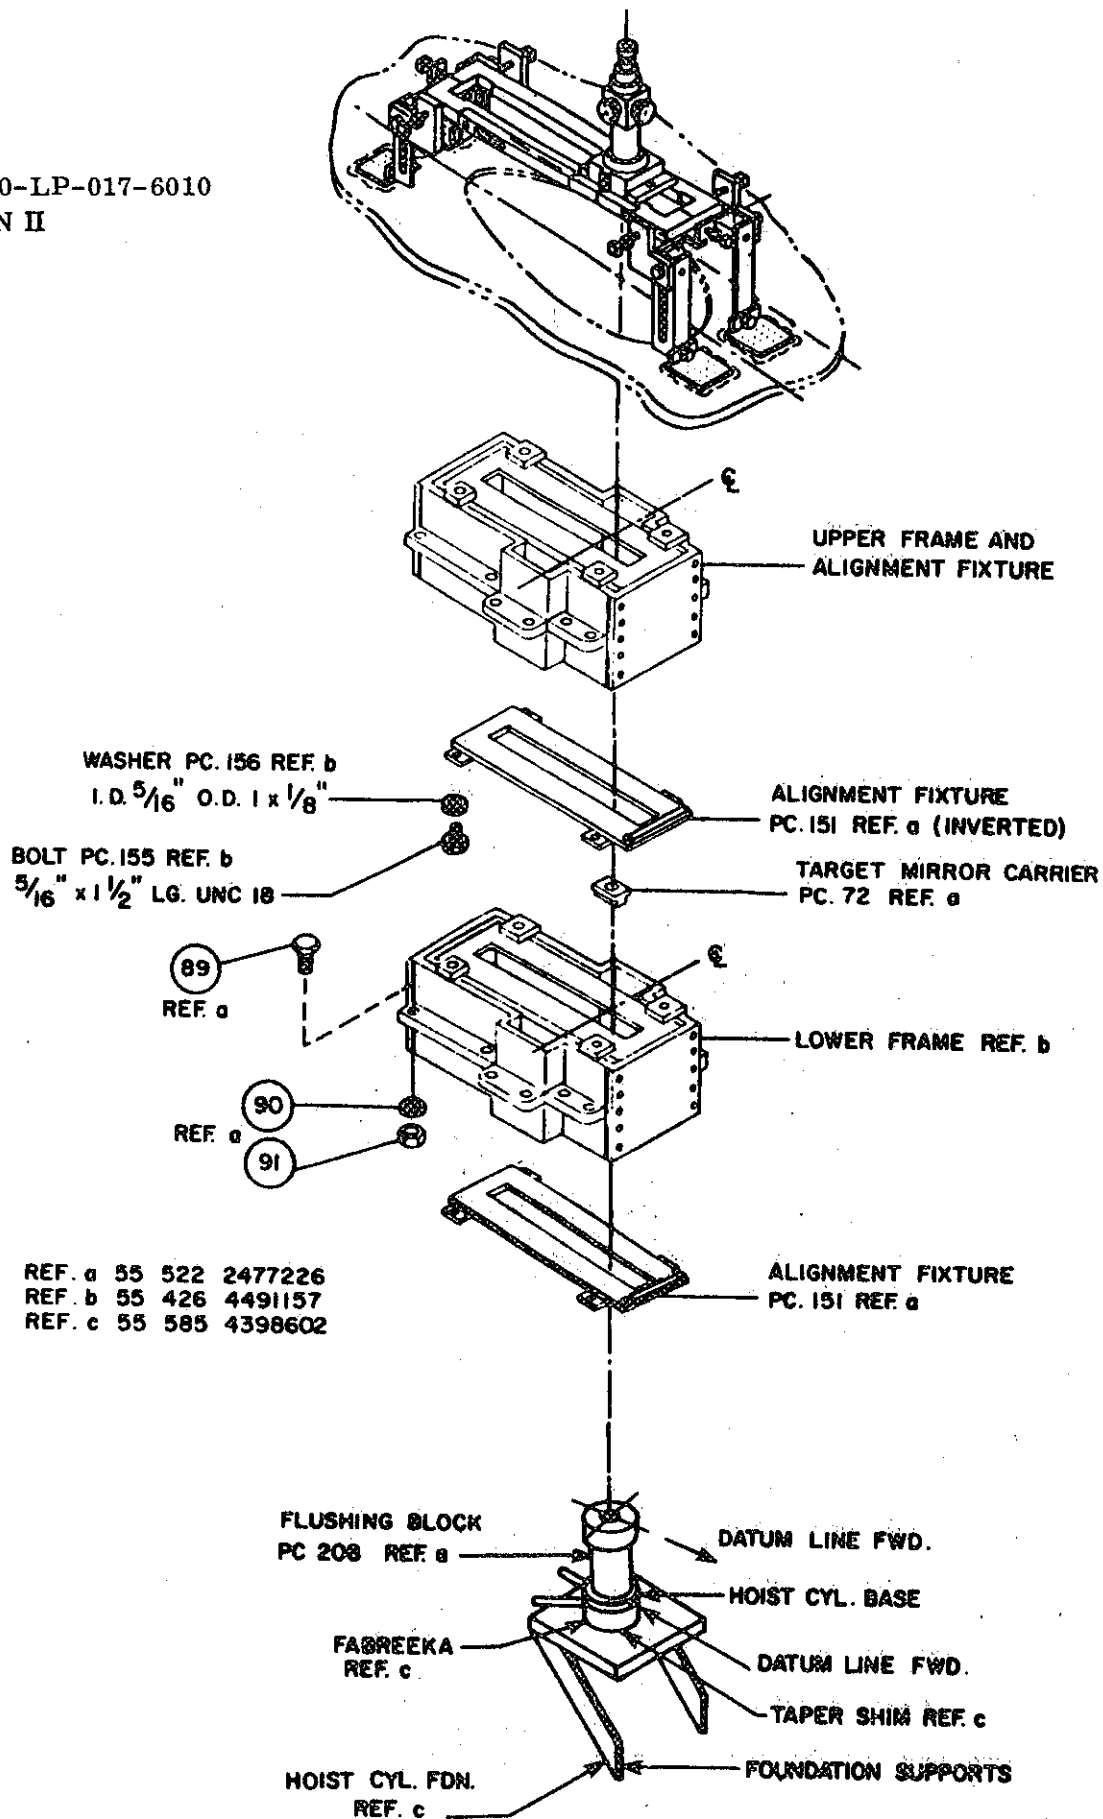

Figure 2-19. Alignment Set-Up
- STEP 1** (See Figure 2-19.) Position the bearing frame on the foundation plate and then align it with the adjusting (jacking) screws until all of the following exist:
- (1) The target center coincides with the reticle center of the alignment telescope.
- (2) The line of sight tracks the target center when the telescope carrier and the target mirror carrier, Pc. 72 is moved to any corresponding position in the guide carriers.